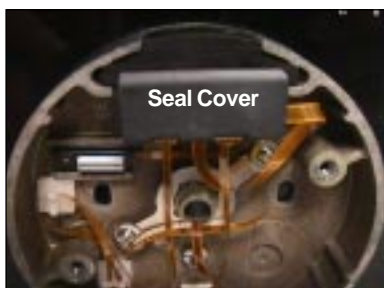

Figure 12 - Open ZIF Seal Cover
1. Open the ZIF (Zero Insertion Force) seal cover and move the ZIF connector locking actuators outward to their open position. (See Figures 12 and 13.)